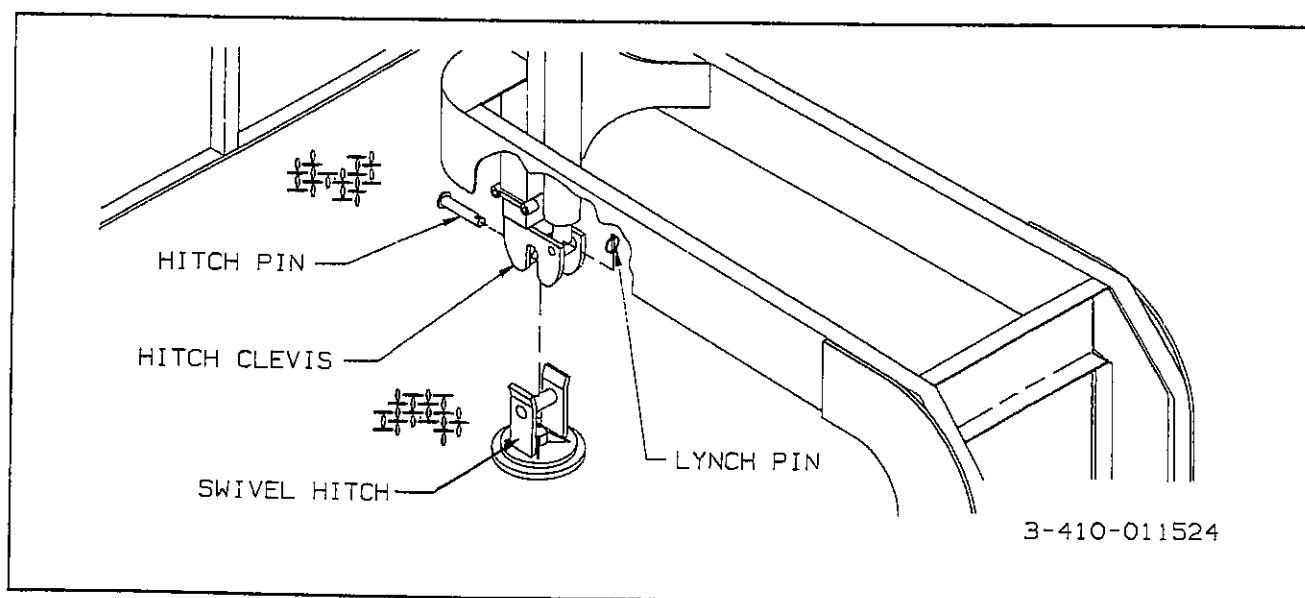

Figure 3-1 Swivel Hitch Coupling
a. Swivel Hitch (see Figure 3-1). With the hydraulic power operating, use the **5th Wheel** lever to lower the hitch clevis onto the swivel hitch. Install the hitch pin through the clevis and swivel hitch and secure with the lynch pin.